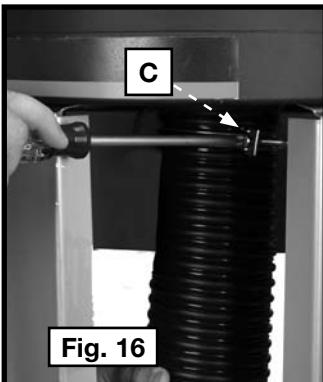

Fig. 16
2. Attach the hose to the dust intake port. Tighten the hose clamp (C) Fig. 16.